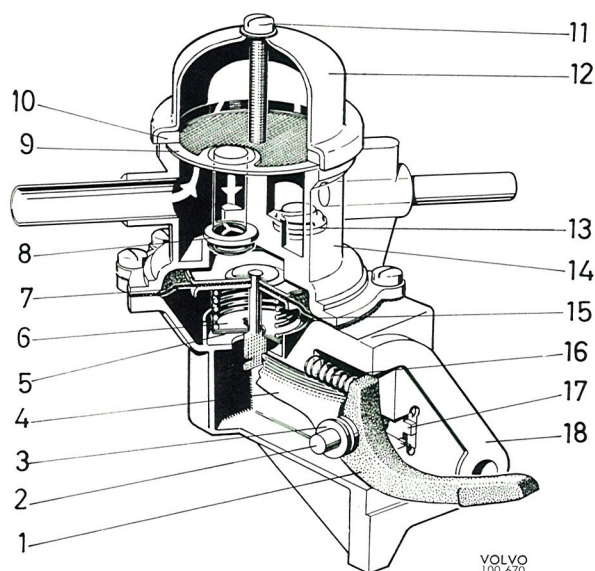

Fig. 2-122. Fuel pump, AC
4. Remove the spring (15, Fig. 2-122) by turning the washer (6) so that the hole in the washer coincides with the wide end of the diaphragm rod.
5. Remove the peening for the rocker arm rider (17) with, for example, a grinding rod, and remove the rocker arm (1) with pin (2) and lever (4).